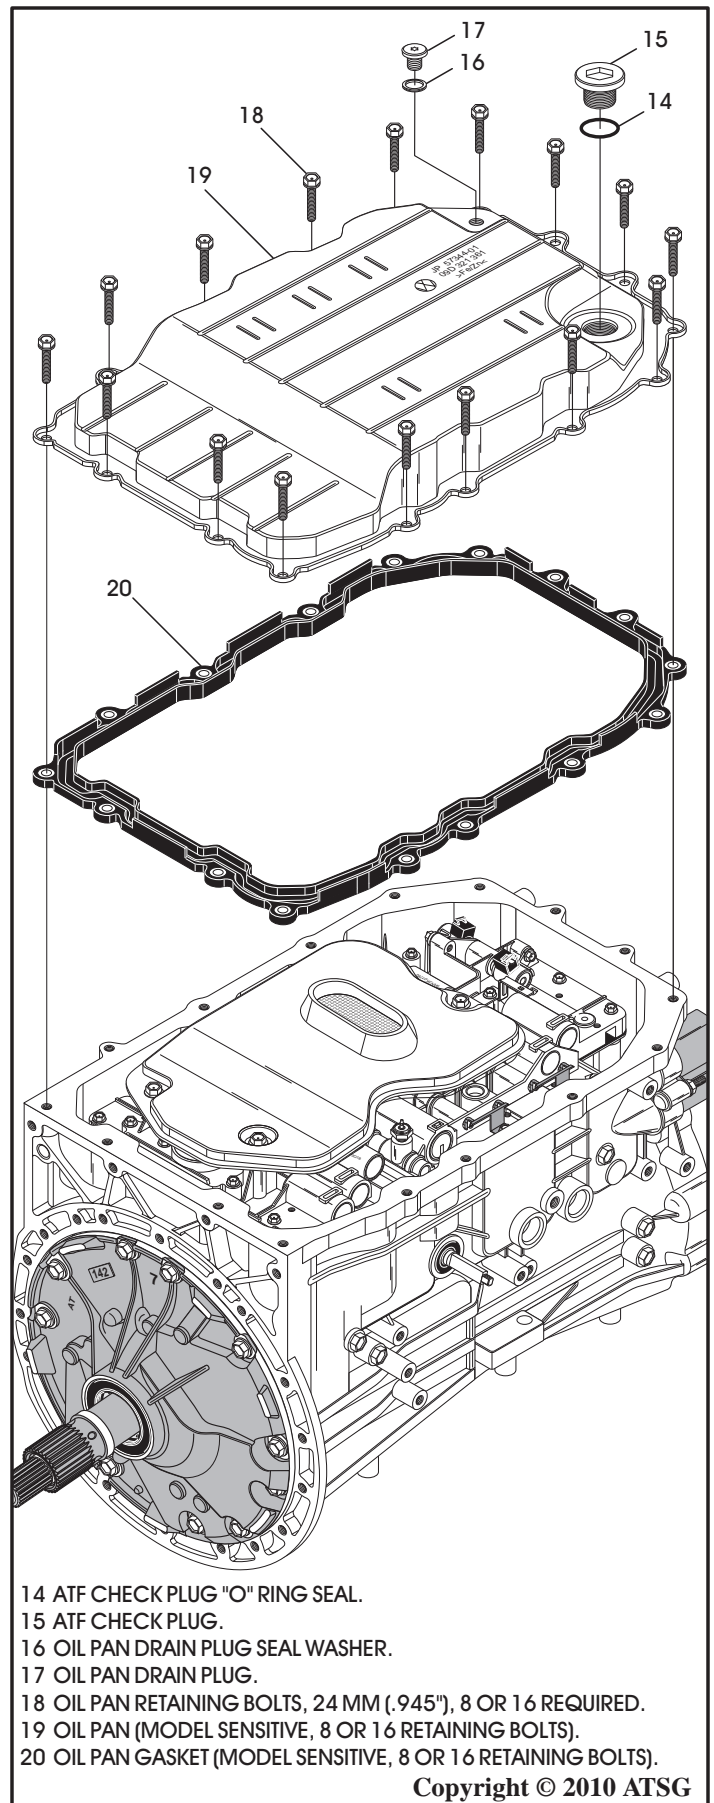

Figure 238
68. Install new oil pan gasket on the oil pan, as shown in Figure 238.
69. Install the oil pan and gasket onto the case, as shown in Figure 238.
71. Install new "O" ring on oil pan "check" plug, as shown in Figure 238, and torque check plug to 28 N·m (20 ft.lb.).